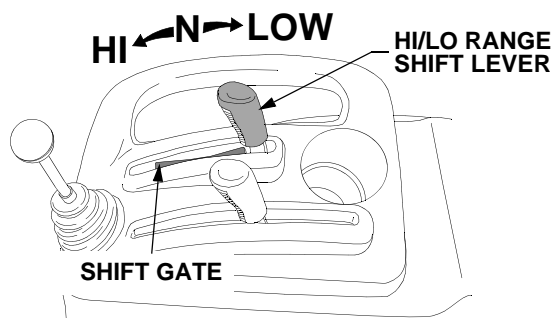

Figure 16
**Hi range** — Shift the lever fully forward in slot. See Figure 16.